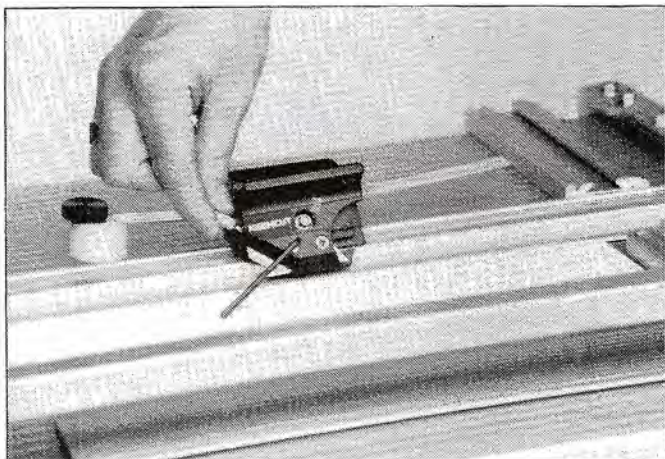

Fig. 4
2. Depress the bevel blade holder (24) fully and draw the cutter head towards you until the blade almost touches the edge of the mountboard. Look to see how far the blade has penetrated into the slip sheet. If this is correct, as above, complete the cut in the manner described on page 5 to confirm that the blade cuts cleanly.
4. Turn the depth adjustment screw (fig 4.) at the front of the cutter head in the appropriate direction: